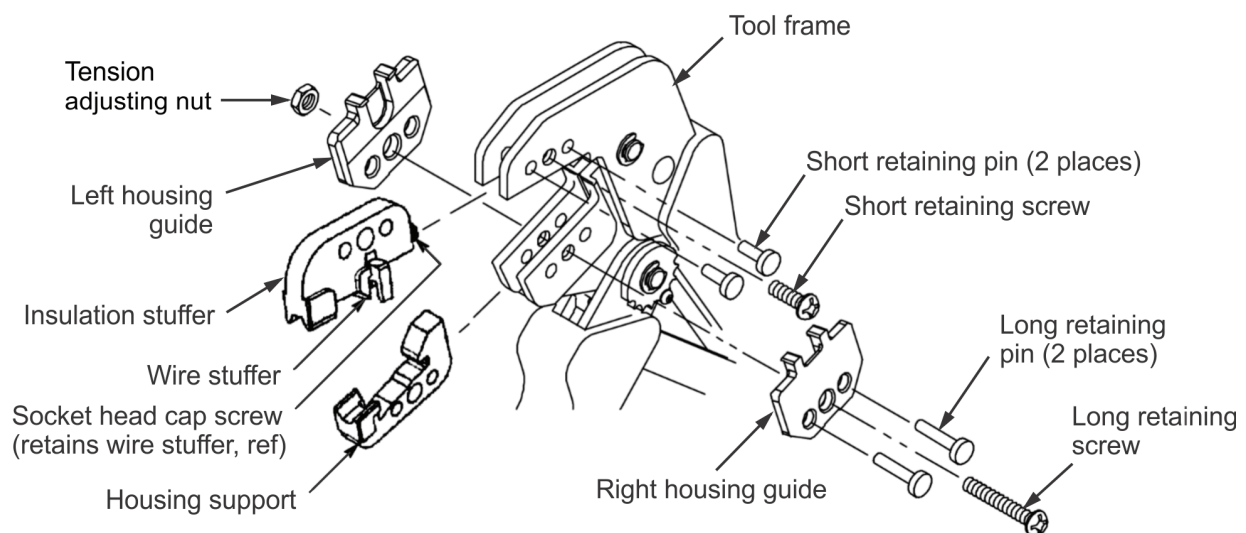

Figure 2. Tool Setup
2. Orient the insulation stuffer as shown in Figure 2, and insert it into the stationary jaw of the tool frame. Align the holes with the associated holes in the tool frame. Insert the short retaining pins and short retaining screw into the holes in the tool frame. Tighten the screw.
3. Orient the housing support as shown in Figure 2, and insert it into the moving jaw of the tool frame. Align the holes with the associated holes in the tool frame. Orient the right housing guide as shown, and mount it onto the tool frame using the long retaining pins. Insert the long retaining screw through the hole in the right housing guide. Tighten the screw.
4. Refer to Figure 2. Orient the left housing guide as shown, and secure it onto the tool frame using the tension adjusting nut. Tighten the tension adjusting nut using an assembled modular plug connector assembly.
1. Install the wire stuffer onto the insulation stuffer using the 4-40 UNC .621 in. socket head cap screw included with the die assembly. Refer to Figure 2.